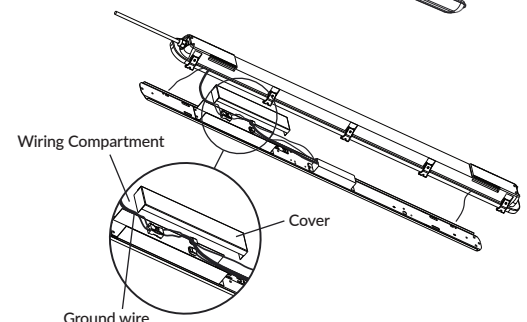

Figure 6
6. Open wiring compartment cover by unscrewing the side screw. Make appropriate electrical connection according to general wiring diagram. Put back wiring compartment cover and secure it by tightening the side screw. Ensure all the connectors are properly tucked inside the wiring compartment. (Figure 6)